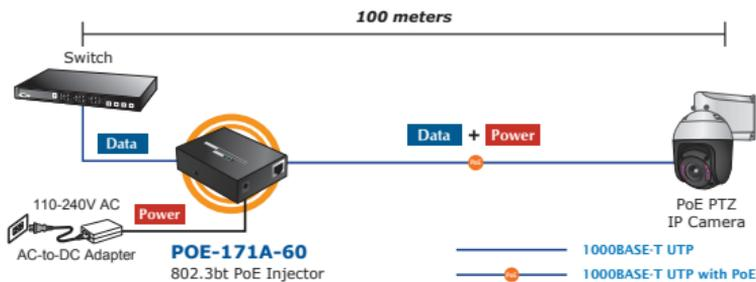

Figure 3: Connecting architecture with IEEE 802.3af/at/bt device
4. Connect with IEEE 802.3af/at/bt devices. Due to the capability of IEEE 802.3af/at/bt Power over Ethernet, the POE-171A series can directly connect with any IEEE 802.3af/at/bt end-nodes, such as PTZ (Pan, Tilt & Zoom) network cameras, PTZ speed dome, color touch screen, Voice over IP (VoIP) telephones and multi-channel wireless LAN access points which support IEEE 802.3af/at/bt In-line Power over Ethernet port. The screen in Figure 3 appears.